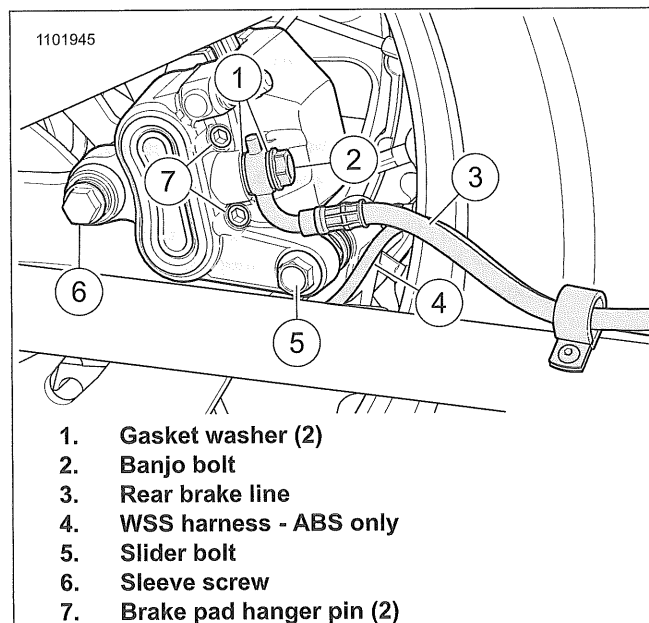

Figure 3-46. Rear Caliper
1. See Figure 3-46. Remove slider bolt (5) and sleeve screw (6).
1. See Figure 3-46. Install caliper
- a. See Refer to Figure 3-46.. Tighten sleeve screw (6).